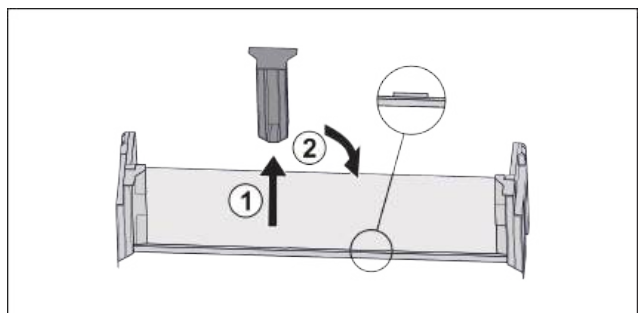

Fig. 79
▶ Pull off the middle holder Fig. 79 (1).
▶ Insert the middle holder in the second position Fig. 79 (2).